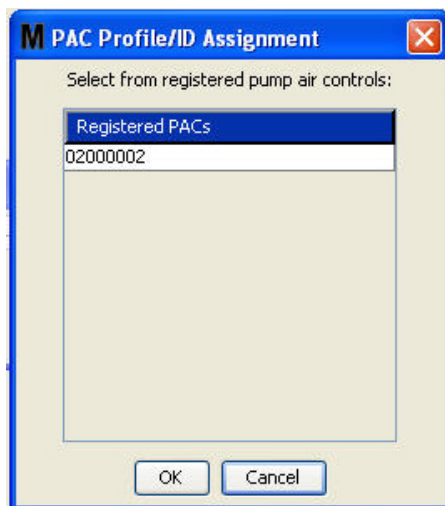

FIG. 130
4. After you have named the PAC, click the link button. The Profile/ID Assignment screen shown in FIG. 130 displays. From the list of registered Pump Air Controls, select a PAC from the list. Click OK to close the screen and save the changes. A complete description of the PAC registration procedure is provided in the Pump Air Control instruction manual. Instructions are also provided in the How to Register a Pump Air Control section in Appendix A of this manual on page 171.